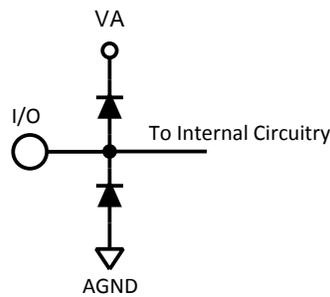

Figure 2. Analog Input Protection
- (1) The analog inputs are protected as shown in Figure 2. Input voltage magnitudes beyond the supply rails will not damage the device, provided the current is limited per Note 4 under the Absolute Maximum Ratings Table. However, input errors will be generated if the input goes above V_A and below AGND.
- (2) Test limits are specified to AOQL (Average Outgoing Quality Level).
- (3) Typical figures are at $T_A = 25^\circ\text{C}$, and represent most likely parametric norms at the time of product characterization. The typical specifications are not ensured.
The analog inputs are protected as shown in Figure 2. Input voltage magnitude up to 500 mV beyond the supply rails will not damage this device. However, input errors will be generated if the input goes above VA and below AGND.